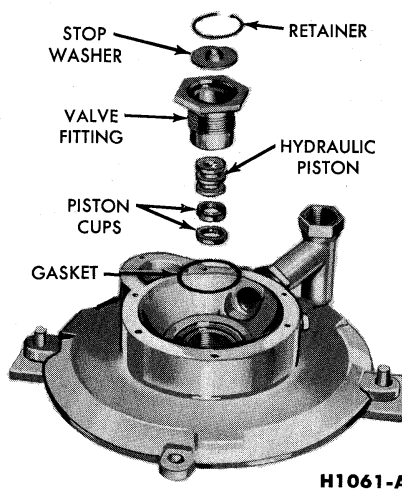

FIG. 47—Hydraulic Control Valve Piston and Fitting
24. Remove the retainer and stop washer from the valve fitting and remove the fitting. Push the hydraulic piston out of the valve fitting, and remove the gasket from the valve fitting (Fig. 47).
25. Install the push rod seal and related parts in the order shown in Fig. 47. The chamfered side of the
27. Place the rear end plate on the holding fixture (Fig. 47), and install the stop washer with the flat side in the valve fitting. Install the retainer.